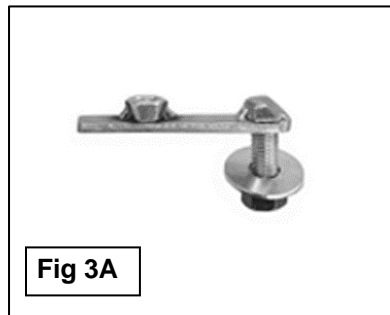
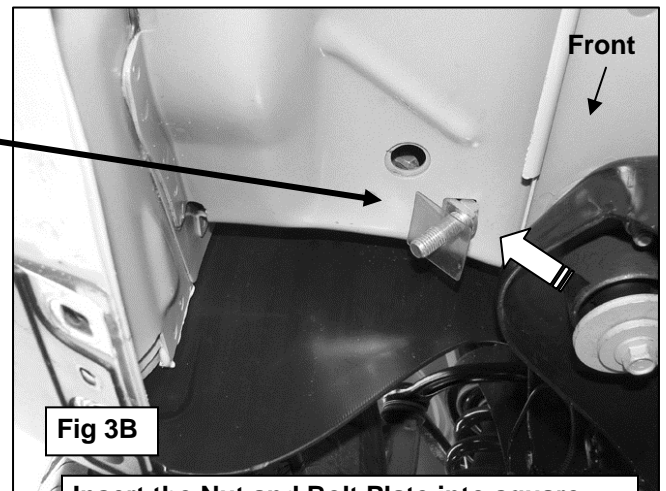

Fig 3A
Fig 3B
4. Next, locate the round and square holes in the floor panel next to the body mount. Select (1) 12mm x 40mm x 10mm Nut and Bolt Plate and (1) 12mm Plastic Retainer. Thread the Retainer part way onto the Nut and Bolt Plate, **(Figure 3A)**. Insert the Nut and Bolt Plate into the square hole in the floor, **(Figure 3B)**. Line up the nut on the Nut and Bolt Plate with the round hole. **IMPORTANT:** The Plastic Retainer is designed to prevent the Bolt Plate from falling into the body cavity and to aid in mounting the Bracket. After inserting, thread the Plastic Retainer down flush against the body panel. **NOTE:** For passenger side installation, temporarily remove the ground strap if interfering with installation.